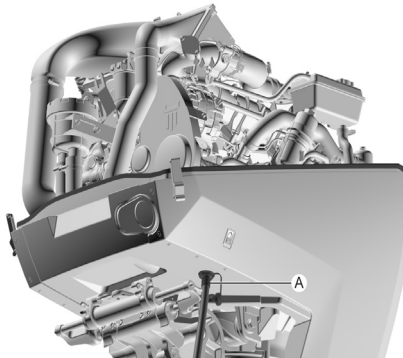

Fig. 128 Start /test running on land
1. Connect a 1/2" threaded hose connector to the flush valve fitting located on the port side of the cowl (A). See figure 128.